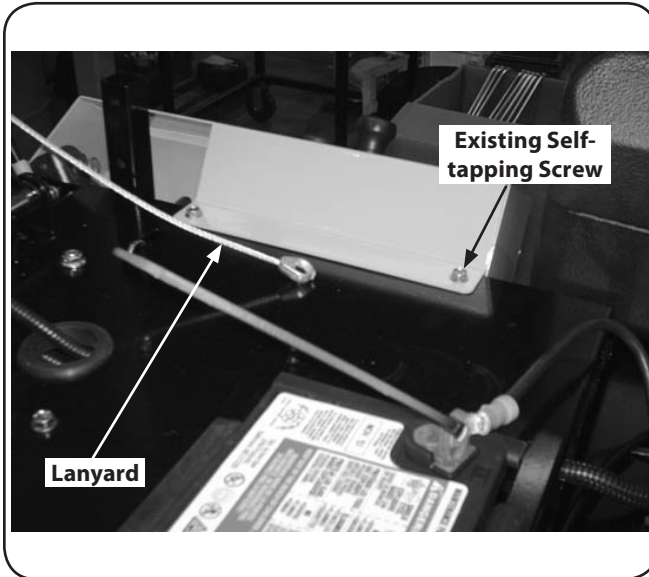

Figure 1-4
4. Install lanyard using existing self-tapping screw. See Figure 1-4.